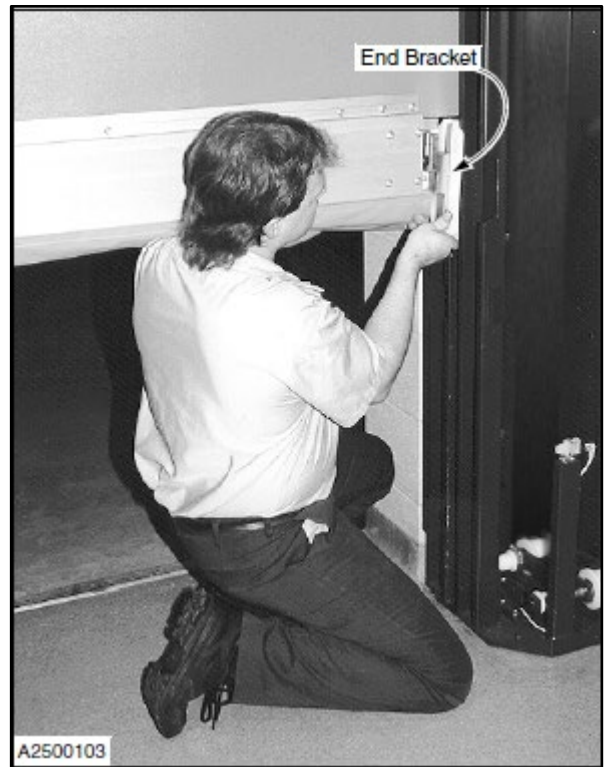

Figure 7
6. Insert the end bracket into the end of the bottom bar assembly. They are properly connected when the spring plunger on the end of the bottom bar assembly snaps into the end bracket. (See Figure 7)